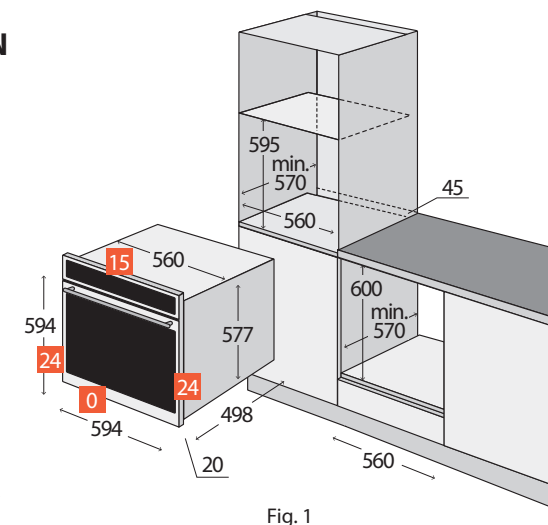

Fig. 1
1. Open the oven door to the maximum possible position Fig. 1.
- The unit should be installed in standardised kitchen furniture designed for built-in appliances or in properly adapted furniture of dimensions according to Fig. 1.
- The appliance may be located either under a kitchen cabinet or in a stand-alone cabinet (Fig. 1).
2. For the sake of efficient air circulation the unit has to be located according to the dimensions on Fig. 1 and the design of the cabinet must enable air flow into its bottom part. The gap behind the rear wall of the built-in appliance must be at least 50 mm.